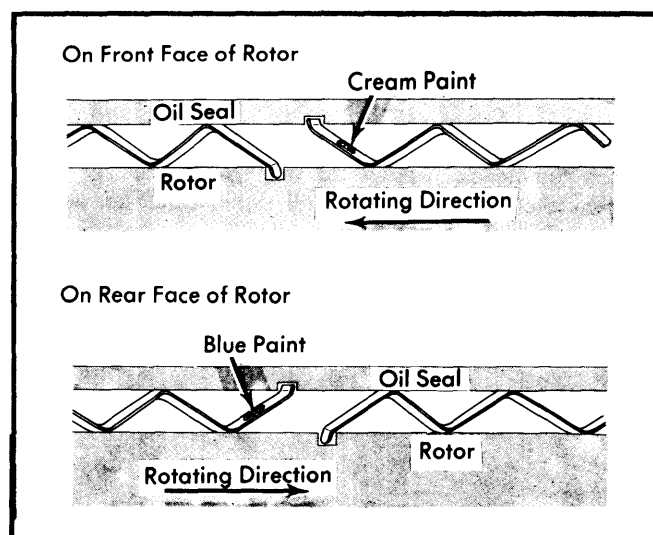

Fig. 18 Installing Oil Seal Springs on Rotor
1) Place rotor on rubber pad or cloth. Install oil seal springs in their respective grooves on rotors, with each edge of spring fitted in stopper hole. Ensure oil seal springs have been painted in cream or blue color: cream colored springs must be placed on front faces of both rotors and blue springs on rear faces of rotors. When installing, painted side of spring must face oil seal (upward), Fig. 18.